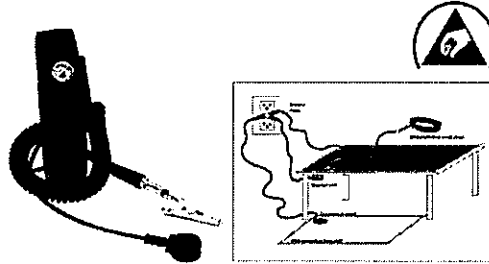

Figure 26: Example of Anti-static adjustable wrist strap
- 5.12 Anti-electrostatic Adjustable Wrist Strap with minimum 6ft. (1.8m) Coil Cord and wire resistance minimum 1 MΩ (example in Figure 26) (20 sets)